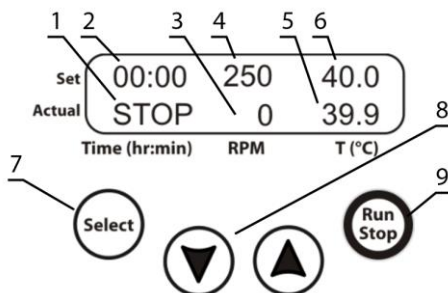

Figure 1. Control panel
- Previously set time (fig. 1/2), set speed of magnetic stirring element (fig. 1/4) and set temperature of water (fig. 1/6) in the upper line (**Set**);
- Time indication (STOP, fig. 1/1), current speed of magnetic stirring element (fig. 1/3) and current temperature of water (fig. 1/5) in the lower line (**Actual**).
- 5.4 **Settings.** Press the **Select** key (fig. 1/7) to choose the parameter to change. Each pressing of the **Select** key consecutively activates the parameters. The active parameter is flashing. Use the ▼ and ▲ keys (fig. 1/4) to set required value. Pressing the key for more than 2 s will increase the increment.
- 5.5 **Temperature setting.** Activate and set the temperature (**T(°C)**, fig. 1/6). Heating starts. The actual temperature value appears in the lower line of the display (fig. 1/5).
5.6 **Magnetic stirring element rotation speed setting.** Activate and set the rotation speed in rpm (**RPM**, fig. 1/4). The actual speed value appears in the lower line of the display (fig. 1/3).
5.7 **Time setting.** Activate and set the desired time in hours and minutes (**Time (hr:min)**, fig. 1/2).
5.8 Press the **Run/Stop** key (fig. 1/9) to start the timer. The elapsed time interval appears in the lower line of the display (fig. 1/1).
Caution! Stopping the timer does not stop the heating/temperature maintenance process. The heating can be stopped by reducing the temperature below 25°C using the ▼ key (fig. 1/4) until the **OFF** indication appears on the display.